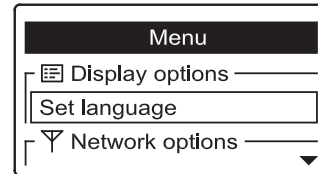

FIG. 43
6. If the remote does not already show a menu screen, press the remote’s SELECT (O) button to display a **Menu** screen. (See Figure 43 on the next page).
1. If no device has been added to the remote, the menu shown in Figure 43 is displayed instead of status screens. In this case, skip to step 2. Otherwise, if status screens are shown, press the remote's SELECT (O) button to display a **Menu** screen (See Figure 43).